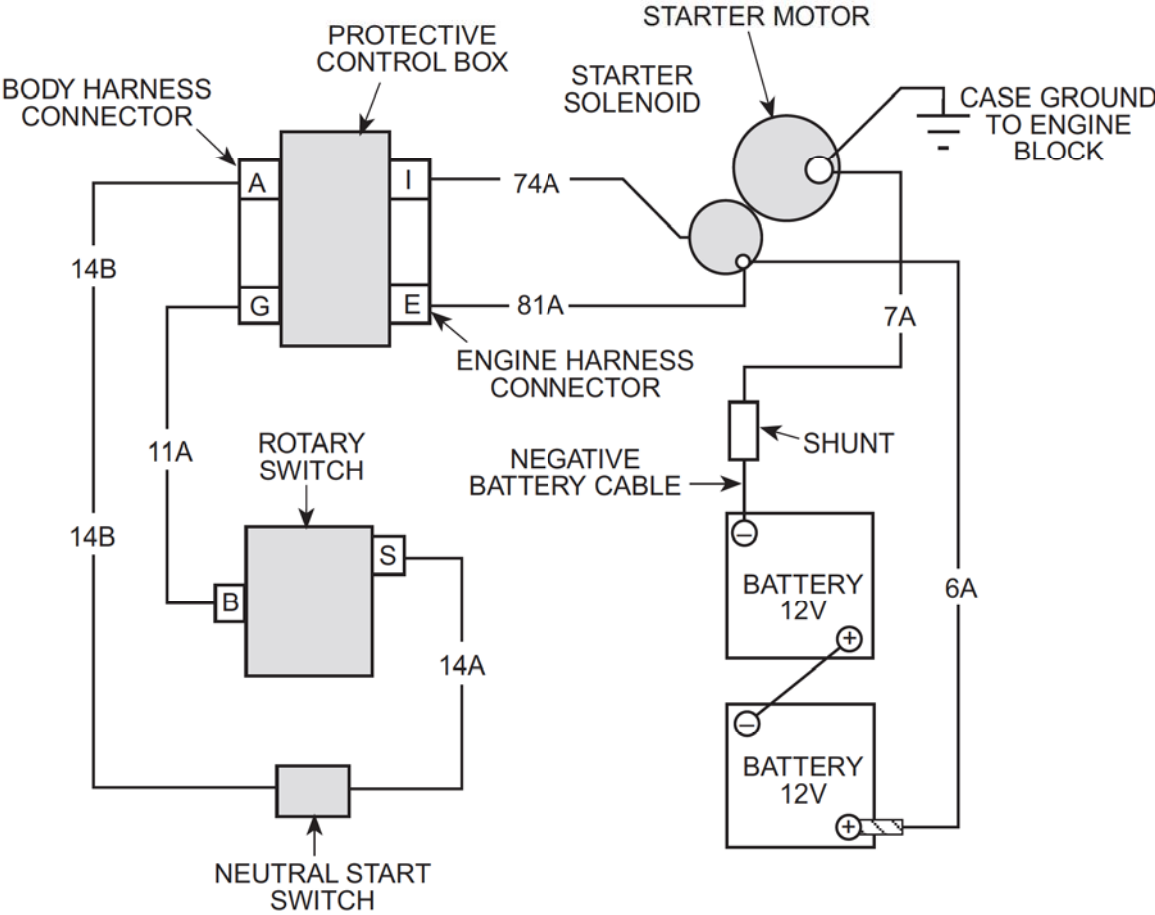

Figure 12-1. Starting System Schematic.
**A. BATTERY SHUNT TEST AND REPLACEMENT (Figure 12-1)**
**B. STARTER TESTING (Figure 12-1)**